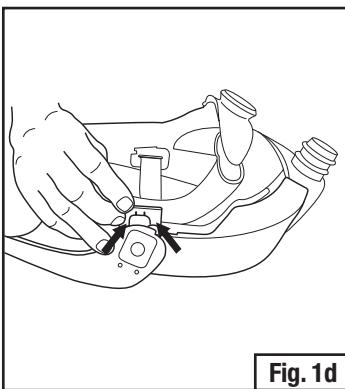

Fig. 1d
- With the headgear upside down and the visor frame in the up (open) position, pull the metal spring clips towards the inside of the headgear until they touch the back plate. Pull out to remove. Gently use a tool if necessary (e.g. manual flat-blade screwdriver). Remove visor frame from M-Series headgear (Fig. 1d).